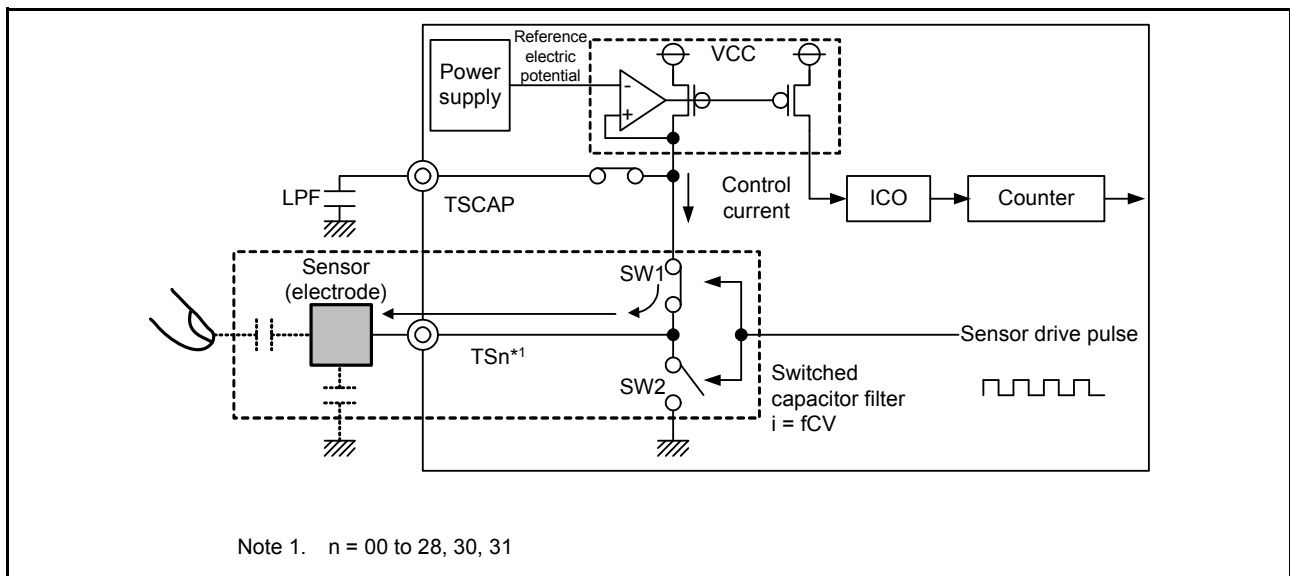
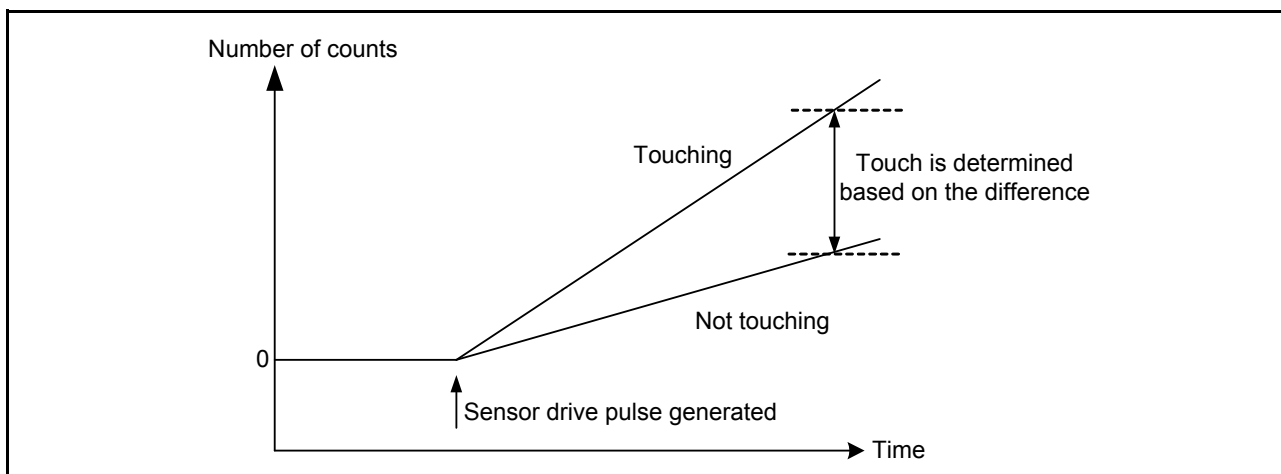

Figure 34.5 Charging operation
Figure 34.7 Change in measured value when finger is touching and not touching
Figure 34.5 to Figure 34.7 explain the electrostatic capacitance measurement operation principles of the CTSU current frequency conversion. The operation is as follows:
1. The electrostatic capacitance of the electrode is charged by turning SW1 on and SW2 off. See Figure 34.5.
3. Current flows to the switched capacitor filter by repeatedly charging and discharging the electrodes as in steps 1. and 2. At this point, if a finger is in close proximity, the capacitance and the flowing current change. A clock is generated by supplying a control current that is proportional to the amount of the current flowing through the switched capacitor filter, from the circuit that generates the TSCAP power supply to the ICO. The counter measures the clock frequency that changes depending on whether a finger is in close proximity. Software uses the value read from the counter to determine contact with a finger. See Figure 34.7.